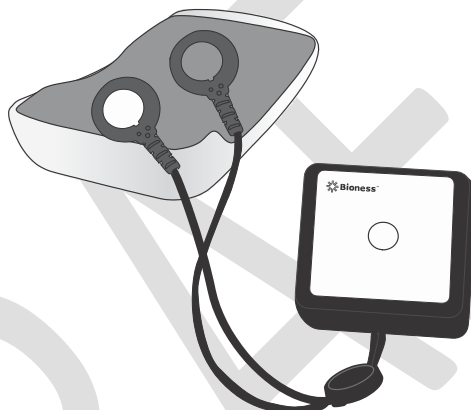

Figure 6-14. Connecting the tester to the EPT.
1. Connect the Tester snaps to the EPT plug holes. See Figure 6-14.